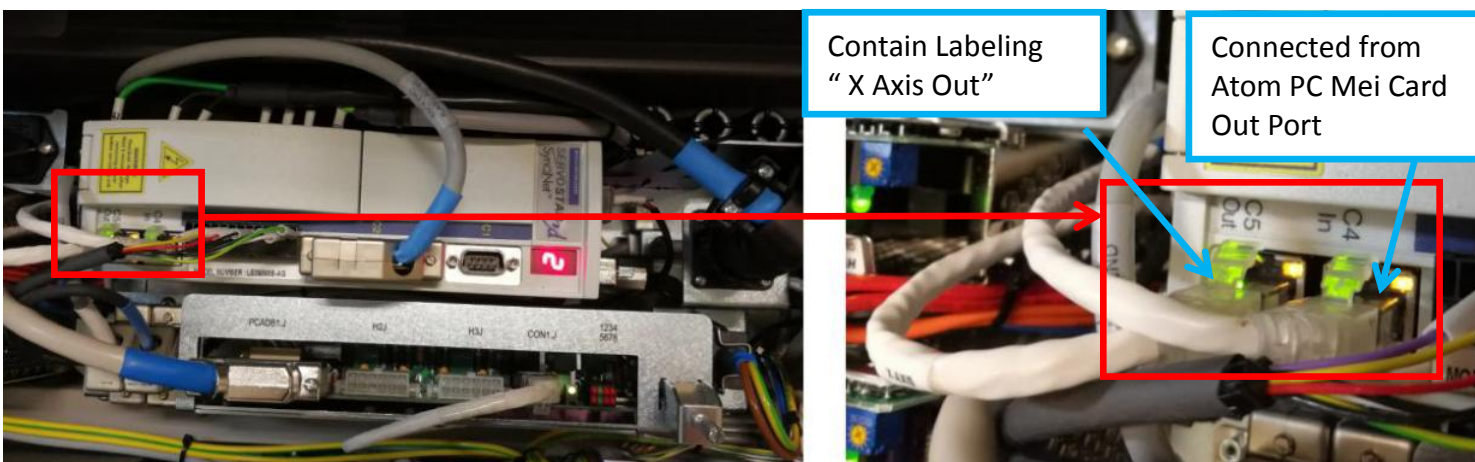

Figure 5
8. Disconnect 2 x Cat 5 Cable from C5 Out & C4 In as below Figure 5.